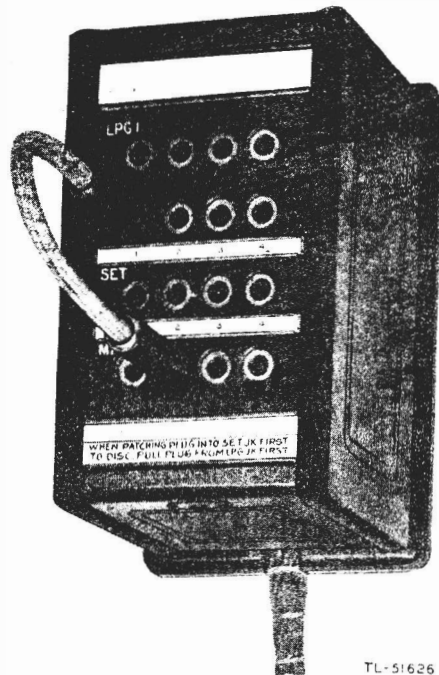

Figure 1. Telegraph Switchboard SB-6 GG, front view.
a. Telegraph Switchboard SB-6 GG consists of a 4-line circuit jack cabinet for mounting on a wall or other suitable flat surface. Figure 1 shows the front of this switchboard with a patching cord in place. With a patching cord of suitable length, interconnection can be made between as many as four adjacent cabinets.